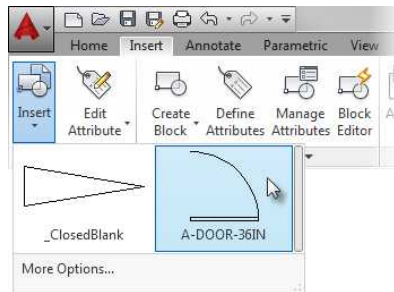

FIGURE 7.9: Selecting a block from the Block gallery
2. Click the Insert button found on the Insert tab ➤ Block panel, and select the A-DOOR-36IN (A-DOOR-0915) block from the Block gallery shown in Figure 7.9.